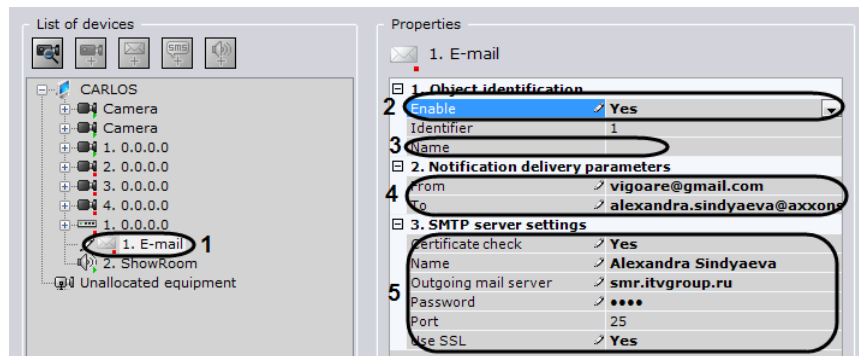

Fig. 6.3—26 Configuring an E-mail object
1. In the list of devices, highlight the **E-mail** object which needs to be configured (Fig. 6.3—26, 1).
2. Activate the **E-mail** object (see Fig. 6.3—26, 2) by selecting **Yes** in the **Enable** list.
3. In the **Name** field (see Fig. 6.3—26, 3), enter the desired name for the **E-mail** object.
4. In the **Notification delivery parameters** field (see Fig. 6.3—26, 4), set the delivery parameters for the E-mail message: